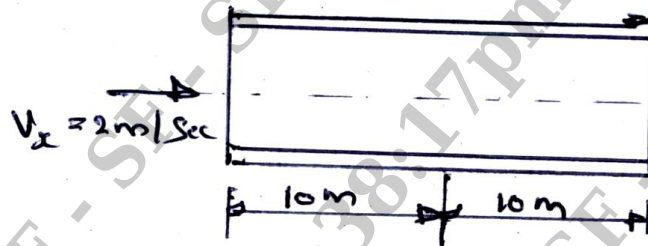

Fig.Q8(b)
b. For the smooth pipe shown in Fig.Q8(b) with uniform cross section of  $1 \text{ m}^2$ , determine the flow velocities at the centre and right end, knowing the velocity at the left is  $V_x = 2 \text{ m/sec}$ .